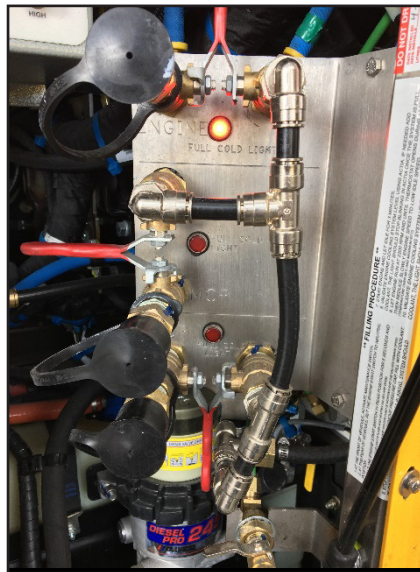

Figure 4 - Fill Port Console
- 1.15. Ensure that all the fill valves are in the closed position. See figure 4.